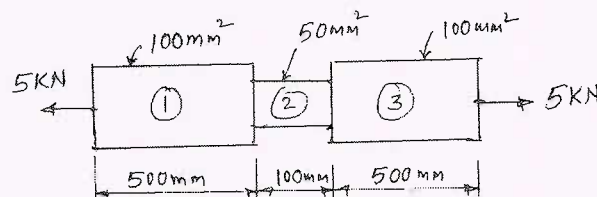

Fig.Q9(c)
- c. Calculate the strain energy stored in the bar shown in Fig.Q9(c) subjected to an axial force of 5 kN. Take $E = 2 \times 10^5 \text{ N/mm}^2$.